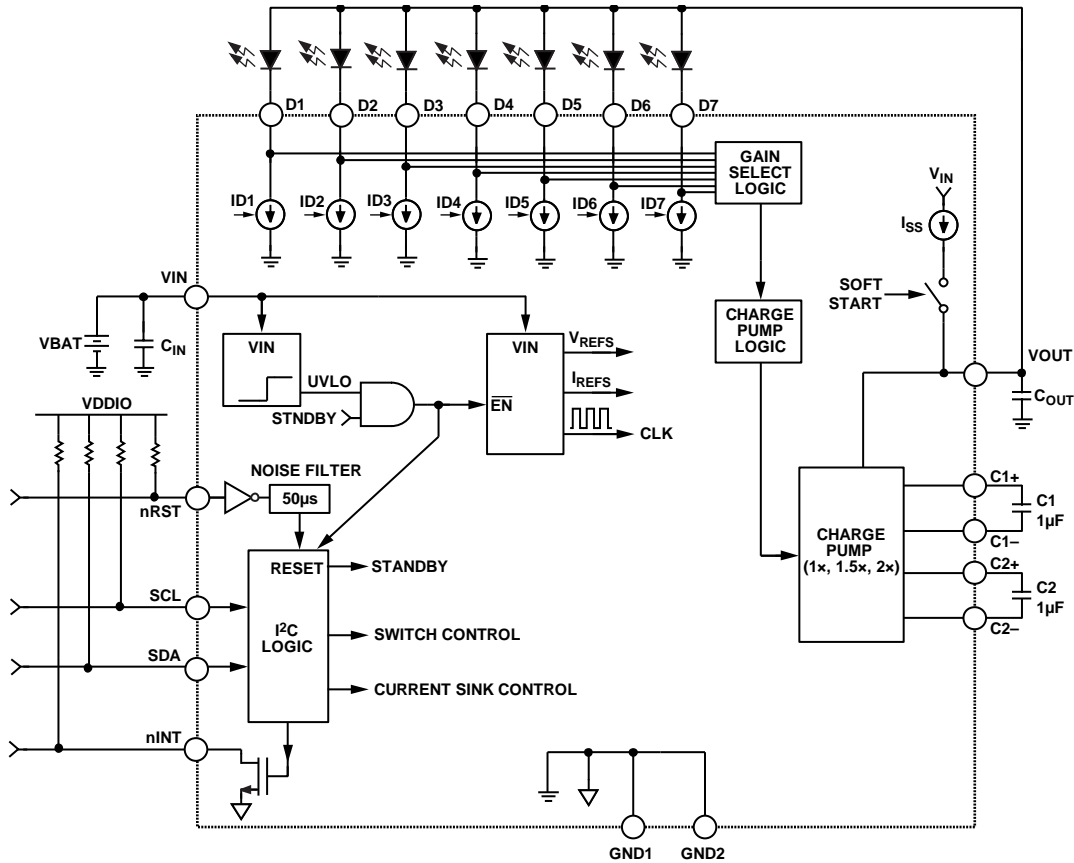

Figure 25. Detailed Block Diagram
By charging the capacitors in different configurations, the charge, and therefore the gain, can be optimized to deliver the voltage required to power the LEDs. Because a fixed charging and discharging combination must be used, only certain multiples of gain are available. The ADP8861 is capable of automatically optimizing the gain (G) from 1x, 1.5x, and 2x. These gains are accomplished with two capacitors (labeled C1 and C2 in Figure 25) and an internal switching network.